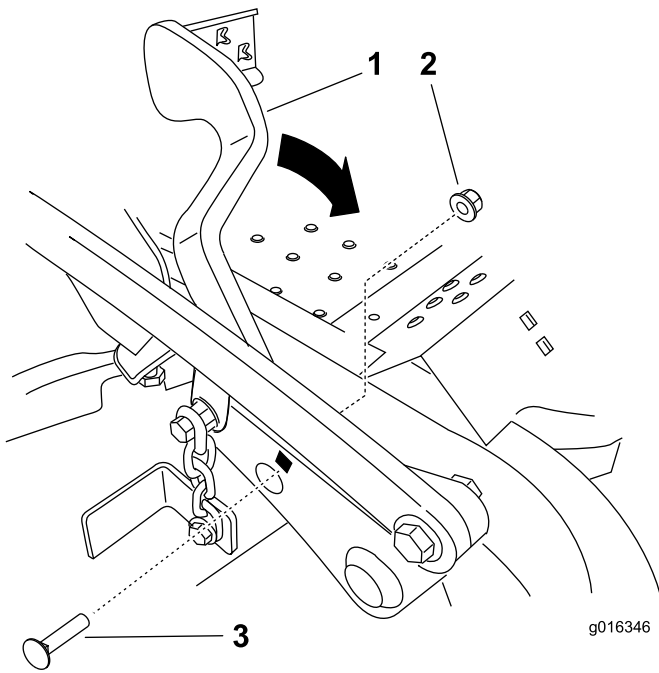

Figure 14
2. Rotate the lift assist pedal to the correct position and install the carriage bolt (3/8 x 1-1/2 inches) and locknut (3/8 inch) (Figure 14). Tighten both bolts.